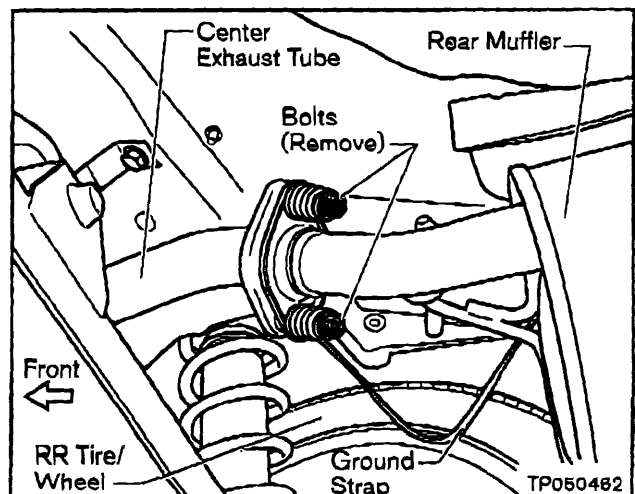

Figure 6b
- d. Remove two Bolts that secure the Center Exhaust Tube to the rear Muffler (see Figure 6b).